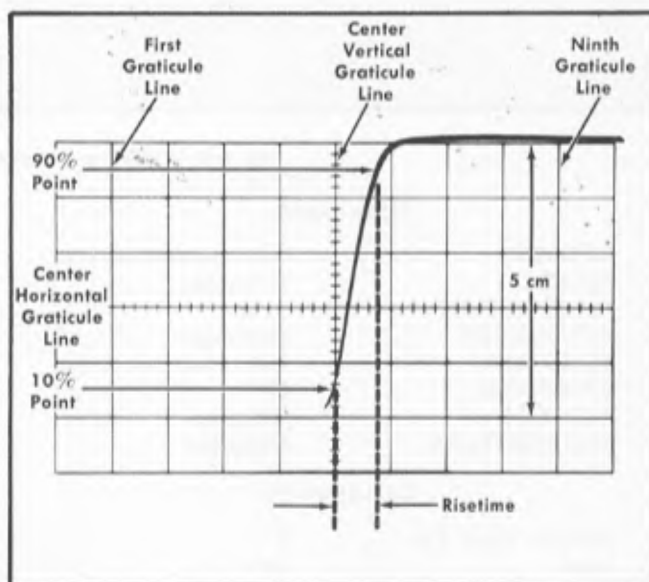

Fig. 6-9. Measuring x-axis amplifier pulse risetime.
j. CHECK—Pulse risetime (see Fig. 6-9) about 50 ns.